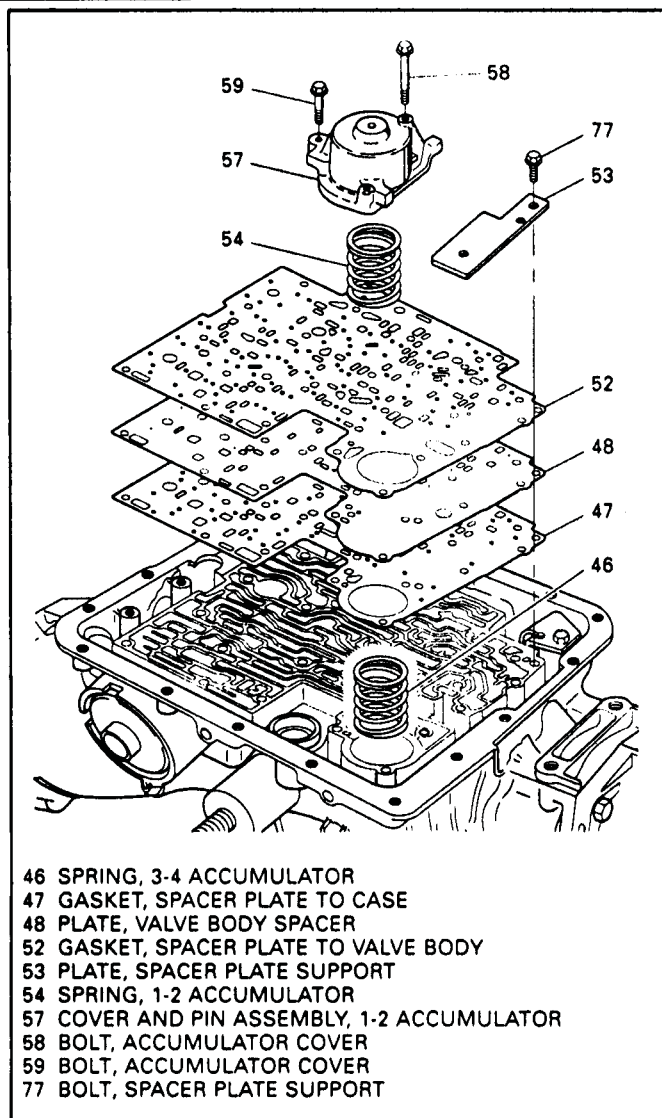

Figure 152
1. Rotate transmission to horizontal as shown in Figure 152.
8. Install the spacer plate to case gasket identified with a "C" over the dowel pins and onto the case (Figure 152).
11. Install proper spacer plate over the dowel pins and onto the case (Fig. 152).
12. Install the valve body to spacer plate gasket identified with a "V" over the dowel pins and onto plate (Figure 152).
13. Install the spacer plate support plate as shown in Figure 152, and torque the three retaining bolts to 8 ft.lb.